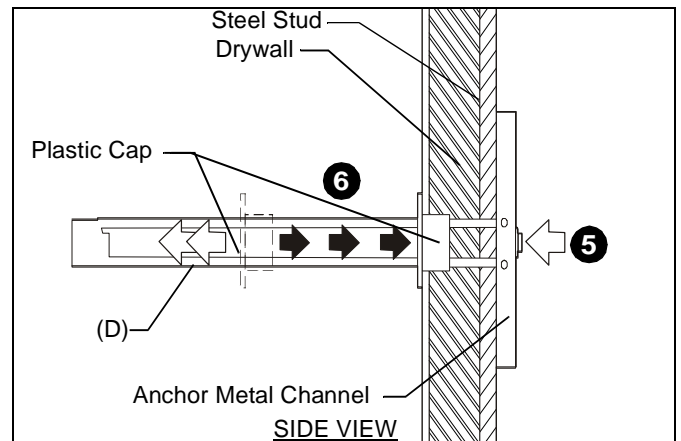

Figure 4
5. Holding plastic straps on anchor (D), pull anchor away from wall until channel rests flush behind wall making sure anchor channel is positioned vertically on stud. (See Figure 4)
6. Slide plastic cap on anchor (D) towards wall until flange of cap is flush with wall. (See Figure 4)